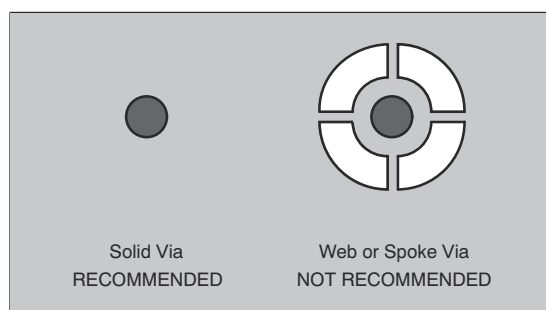

Figure 8-16. Via Connection Methods
6. When connecting these holes to the internal plane, do not use the typical web or spoke via connection methodology (as Figure 8-16 shows). Web connections have a high thermal resistance connection that is useful for slowing heat transfer during soldering operations. This configuration makes the soldering of vias that have plane connections easier. However, in this application, low thermal resistance is desired for the most efficient heat transfer. Therefore, connect the holes under the PowerPAD integrated circuit package to the internal plane with a complete connection around the entire circumference of the plated through-hole.